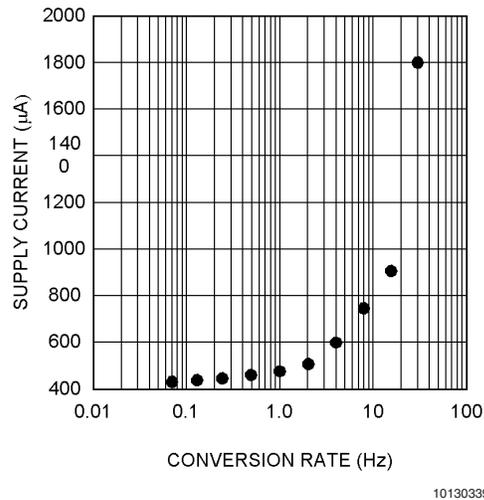

FIGURE 2. Conversion Rate Effect on Power Supply Current
The LM86 takes approximately 31.25 ms to convert the Local Temperature (LT), Remote Temperature (RT), and to update all of its registers. Only during the conversion process the busy bit (D7) in the Status register (02h) is high. These conversions are addressed in a round robin sequence. The conversion rate may be modified by the Conversion Rate Register (04h). When the conversion rate is modified a delay is inserted between conversions, the actual conversion time remains at 31.25ms. Different conversion rates will cause the LM86 to draw different amounts of supply current as shown in *Figure 2*.